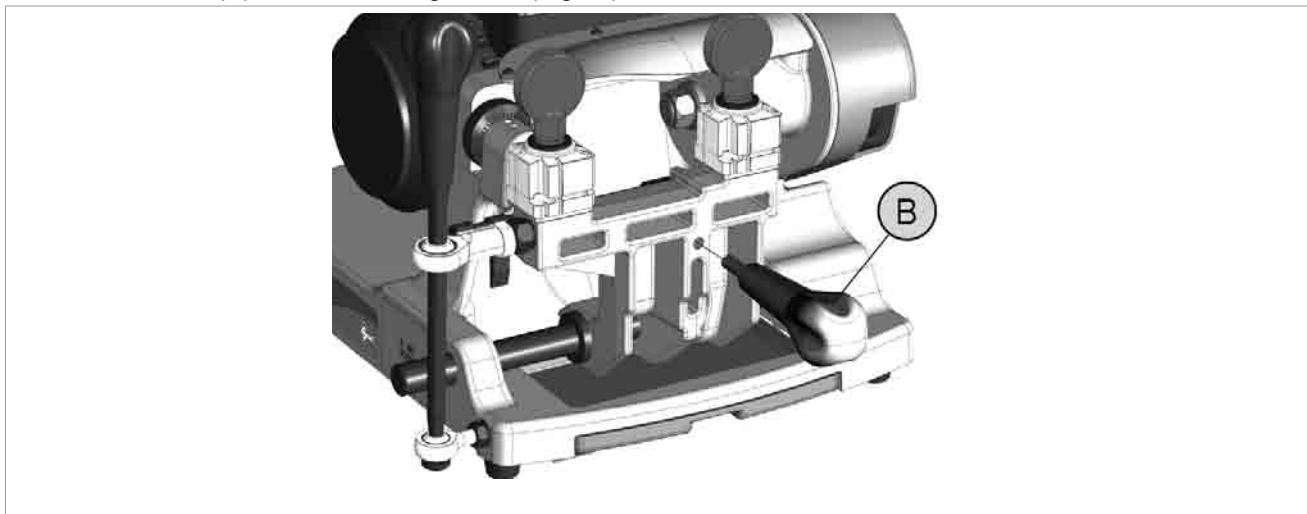

Fig.10
Screw the handle (B) onto the carriage lever (Fig.10).